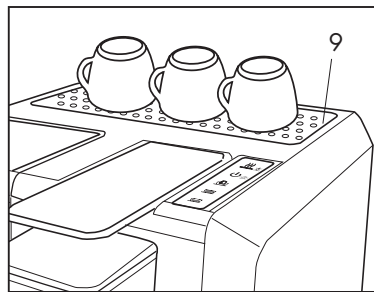

Fig.11
- To prepare espresso use preheated thick cups, so that the coffee will not cool too quickly. You can heat the cups on the cup warmer provided (9) **(Fig. 11)**